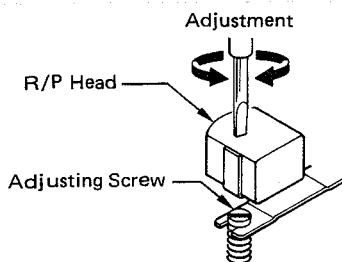

Fig. 3
1. Play back the test tape (Example: TEAC MTT-215C 10 kHz/315 Hz) to adjust the head azimuth. Observe the output wave forms of the LEFT and RIGHT channels. First of all, play back the 10 kHz signal. Turn the azimuth adjusting screw for the R/P Head until the phase of the Left and Right channels becomes identical and their output levels are maximized. Then, play back the 315 kHz signal and check to see that the phase is identical to the phase of the 10 kHz signal. If necessary, repeat the adjustment. (Fig. 3)